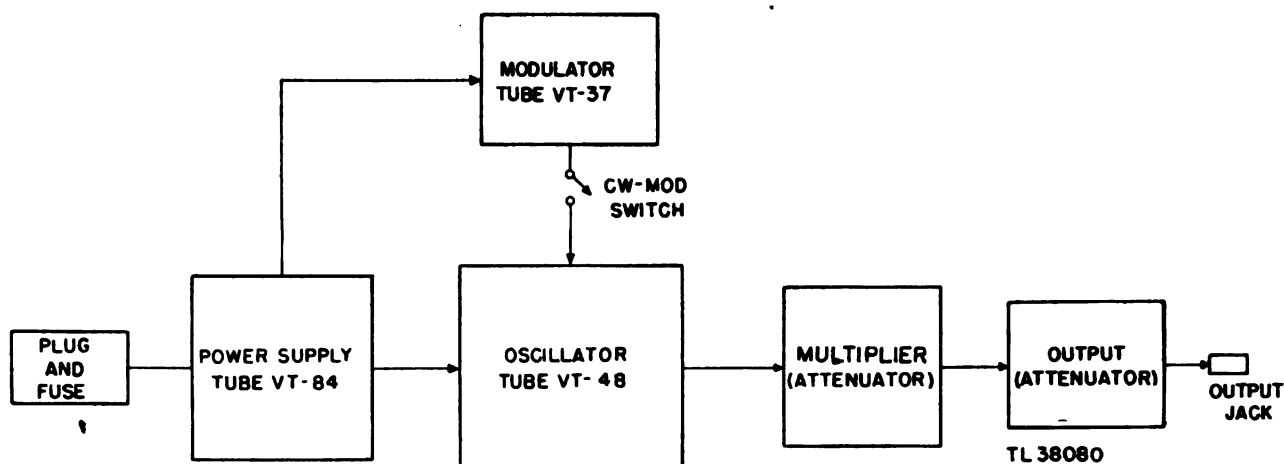

Figure 73. Signal generator, block diagram.
*a. MODULATOR.* Triode VT-37 is connected as a tuned plate oscillator to oscillate at 400 cps and provide a modulation voltage for use in checking audio and video systems. (See fig. 73.)